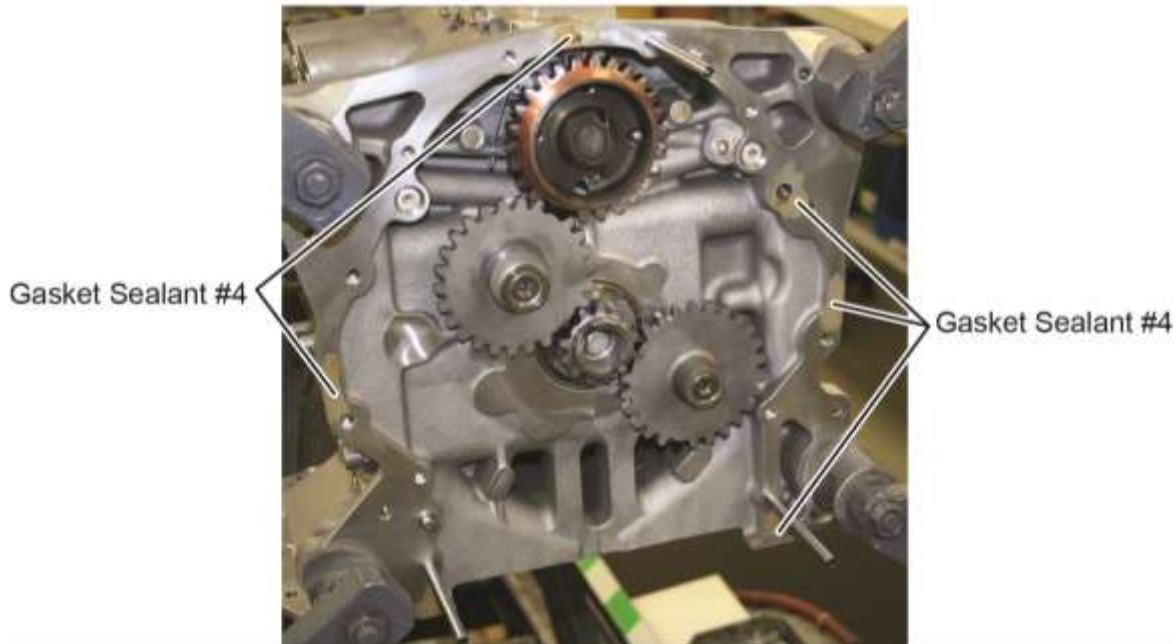

Figure 9
- G. Apply a light coat of Gasket Sealant #4 to the locations shown in Figure 9.